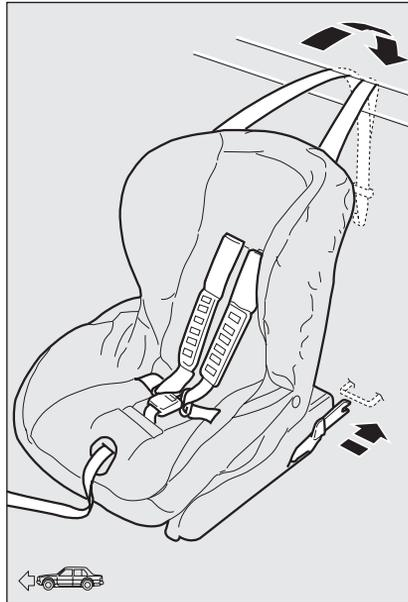

fig. 11
**Fig. 11** shows an example of child restraint system. The Universal Isofix child's seat covers weight group: 1.